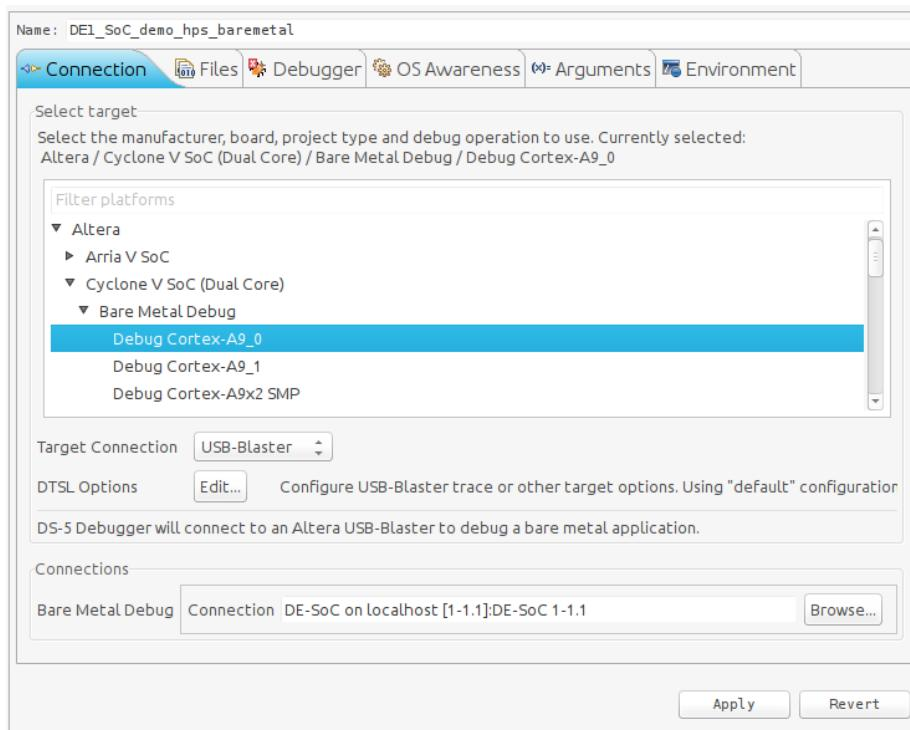

Figure 12-5. Debug Configuration “Connection” Tab
- d. You should have something similar to Figure 12-5.